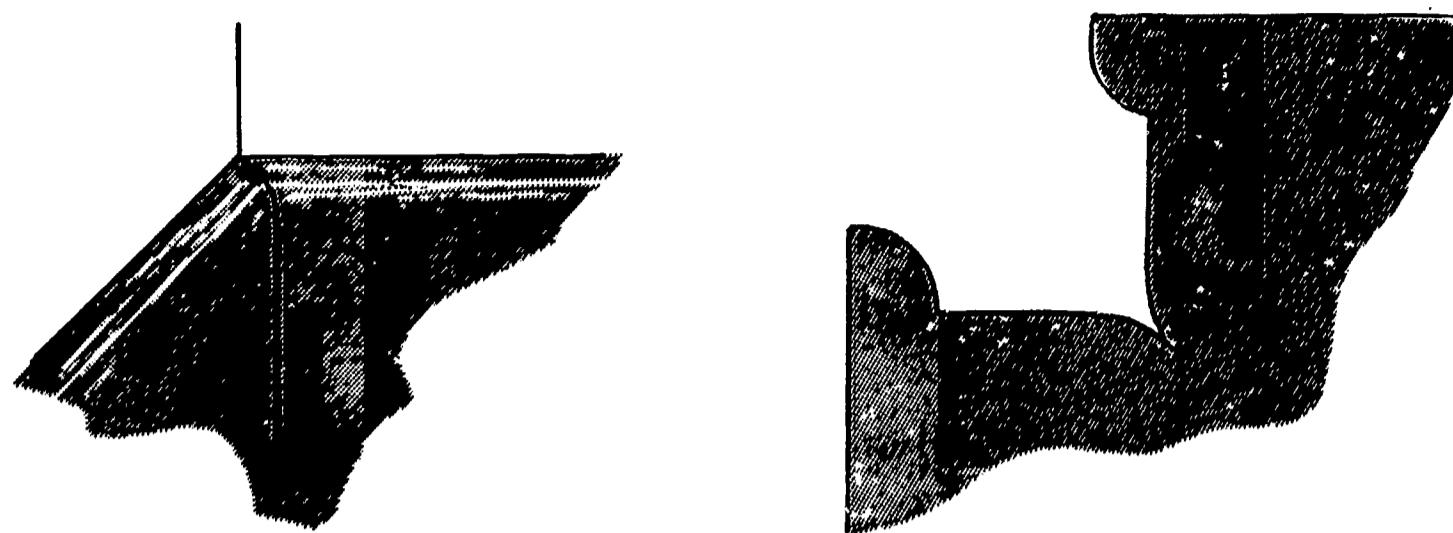

Fig. 107. Rolled-over edge above back splash
- The inside corner of the rolled edge above a backsplash is difficult to complete because the material that comes in contact with the wall must be "freehanded" or "knifed" to a fit. Therefore, sufficient material must be left for this purpose (Fig. 107).